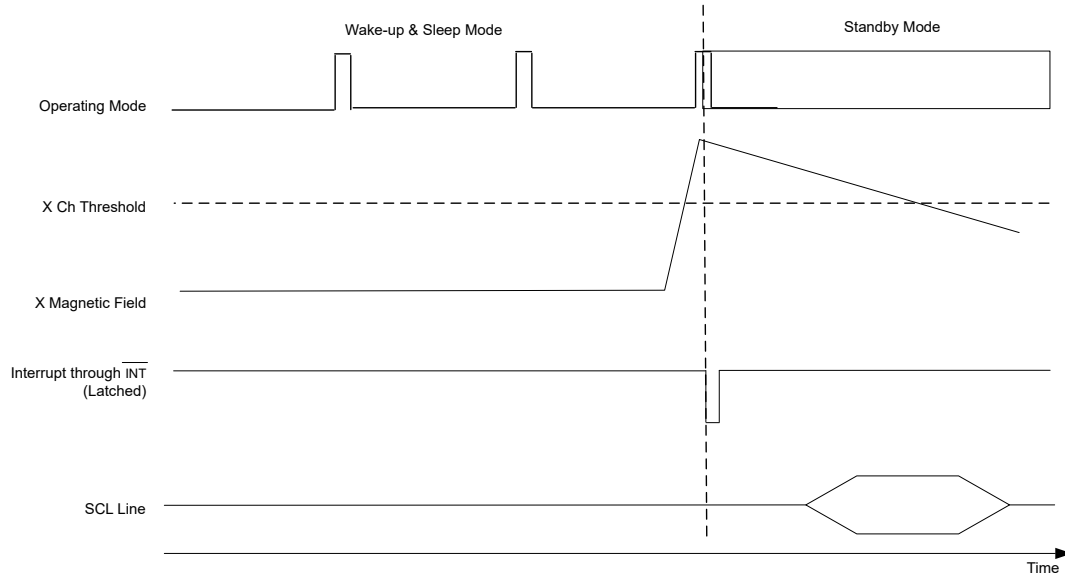

Figure 7-11. Wake-Up and Sleep Mode Operation With Back-Up Battery
- If a threshold detection even occurs, the $\overline{\text{INT}}$ signal asserts low to wake-up the microcontroller. When $\overline{\text{INT}}$ goes low, perform the 16-bit T, X, Y, Z register read with one single read command (see Figure 7-11).